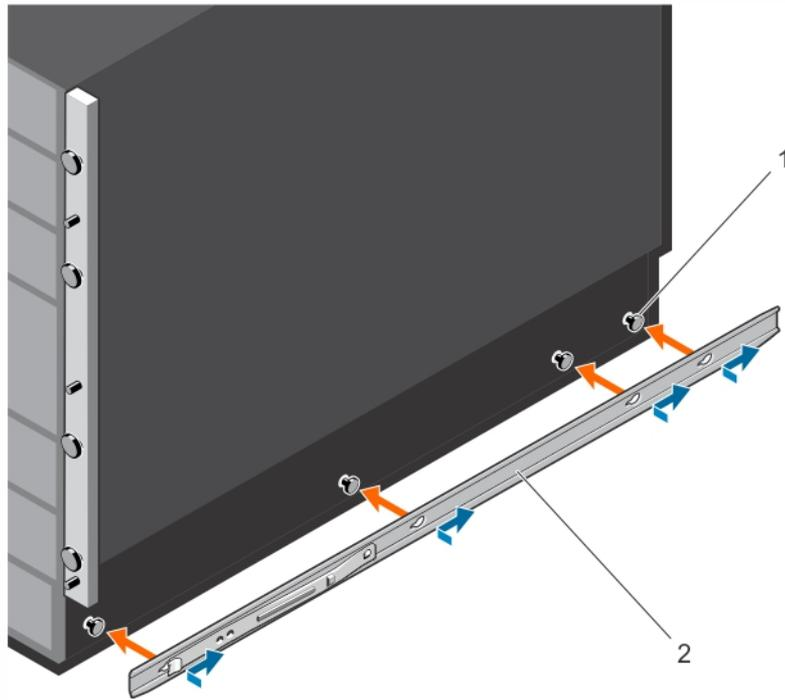

Figure 12. Attaching the Chassis Rails
- Align the holes on the right and left chassis rails with the mounting studs at the bottom of each side of the chassis (orange arrows and item 1 in Figure 12).
- Press each chassis rail over the studs and slide it backwards (towards the back of the chassis) so that it snaps securely into place (blue arrows and item 2 in Figure 12).